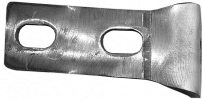
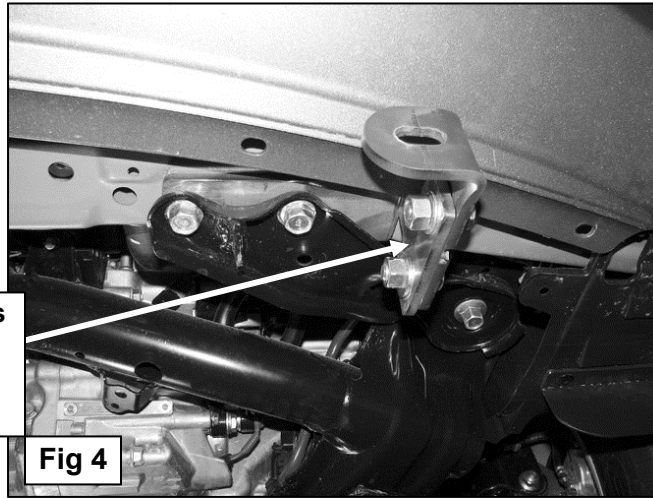

Fig 3A
Fig 4
- Select the driver side Mounting Bracket, **(Figure 3A & 3B)**. Bolt the Mounting Bracket to the outside of the Frame Mounting Bracket with the included (2) 12mm x 35mm Hex Bolts, (2) 12mm Lock Washers, (4) 12mm Flat Washers and (2) 12mm Hex Nuts, **(Figure 4)**. Snug but do not tighten hardware at this time. Repeat Steps 3 & 4 for the passenger side bracket installation.